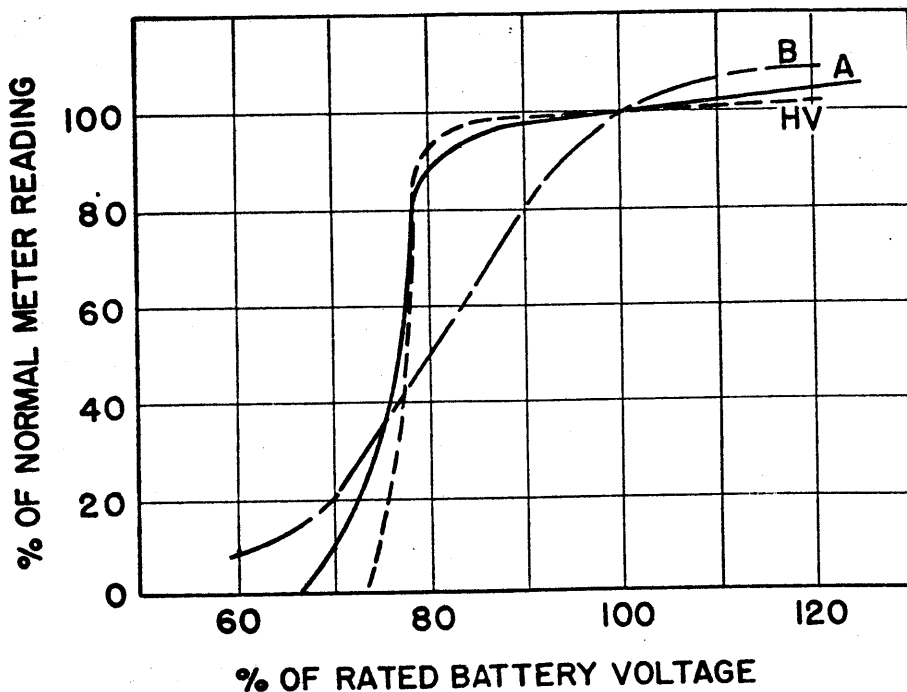

Fig. 6
3. Turn the instrument on and measure directly across the terminals of the  $1\frac{1}{2}$  volt A Battery and  $67\frac{1}{2}$  volt B Battery. See Figure 6.